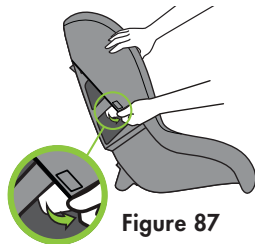

Figure 87
- Unfasten side tab on each side by sliding tabs down and out from under the edge of the Inner Shell, as shown in **Figure 87**.